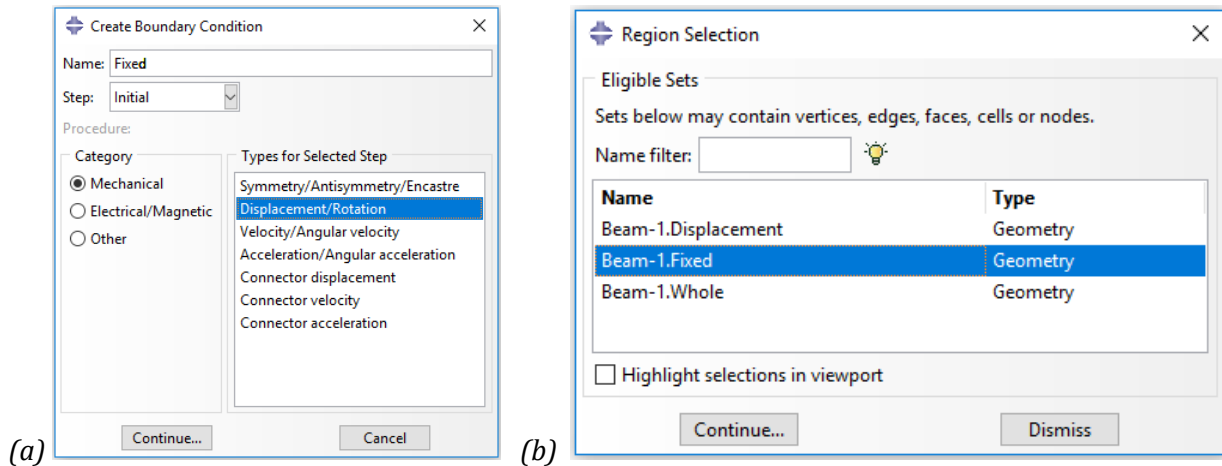

Figure 1-19 – (a) The Create Boundary Condition dialog box and (b) the Region Selection dialog box.
1. In the **Model Tree**, double-click **BCs** to create a new boundary condition in the model **BEAM**. Abaqus/CAE switches to the Load module, and the **Create Boundary Condition** dialog box appears, see Figure 1-19(a).
The **Region Selection** dialog box will appear, Figure 1-19(b). If not, click on **Sets** (Sets...) in the prompt area to access this dialog box.